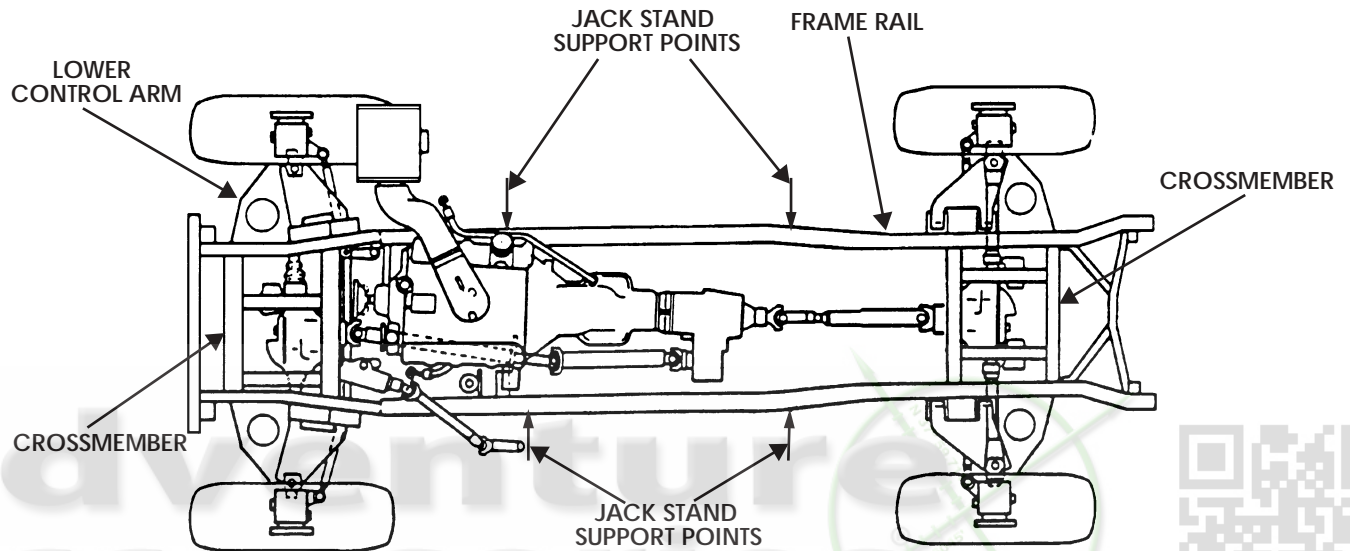

Figure 1-30: Jack Stand Support Points and Frame Overview
3. Raise vehicle high enough to place jack stand under flat portion of frame rail, and lower the jack until vehicle weight is supported (Figure 1-30).
3. Raise vehicle high enough to place jack stands under flat portion of frame rails, and lower the jack until vehicle weight is supported (Figure 1-30).
1. Raise vehicle and remove jack stands (Figure 1-30).
2. Center jack under rear suspension rear crossmember. Use a wood block between jack and crossmember (Figure 1-30).
1. Raise rear of vehicle and remove jack stands (Figure 1-30).